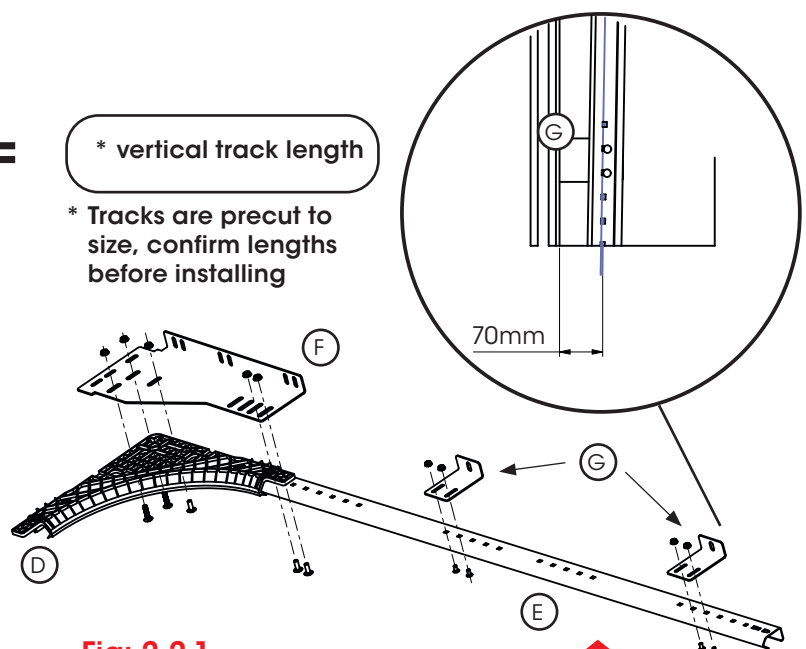

Fig: 2.2.1
- a) Affix the polypropylene curve (D) and flag bracket (F) to the vertical straight track (E) using ⁵/₁₆ flat head bolts and wiz nuts.
The small angle jamb brackets (G) and the flag bracket (F), provide adjustable slots to move the track out from the frame. Use the smaller of the small angle jamb brackets at the bottom of the track and set to 70mm as per Fig 2.2.1. Set the vertical track flag bracket (F) connection to 95mm for a 4 panel door.
- b) Align the small angle jamb brackets (G) with the predrilled holes in the frame and affix to the vertical track using ¹/₄ flat head bolts and wiz nuts.